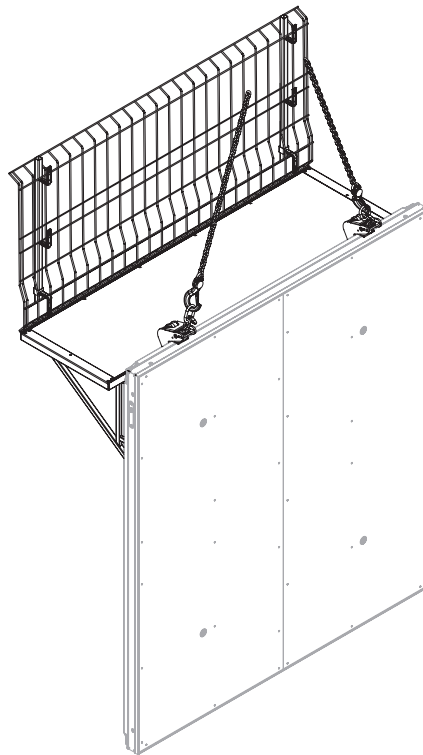
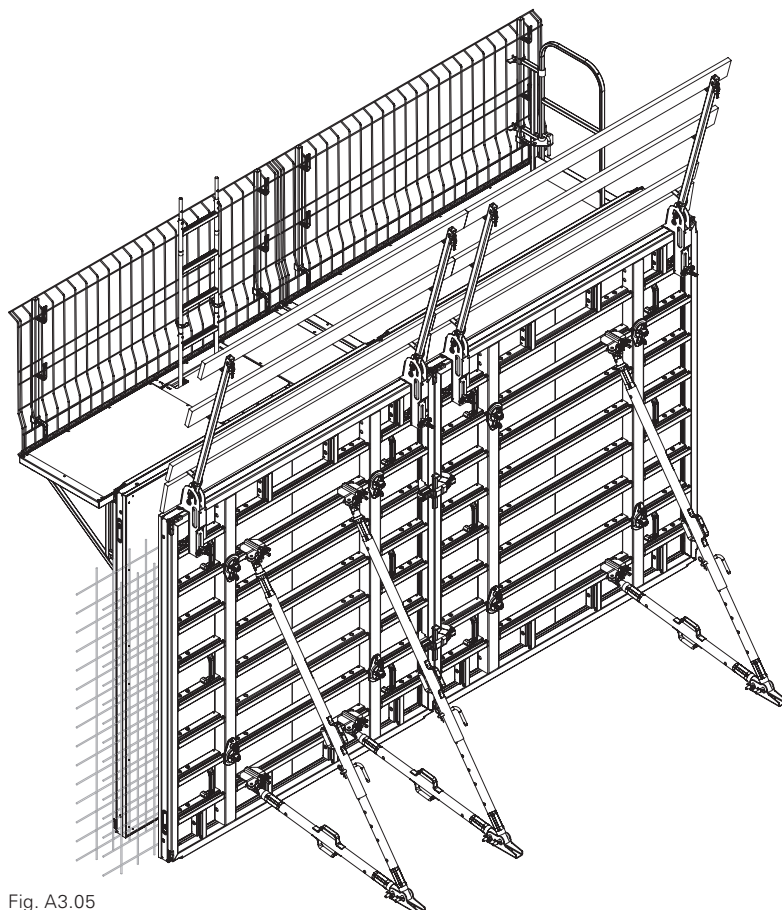

Fig. A3.04
Fig. A3.05
2. Fit the Lifting Hook MAXIMO 1.5t (6).
4. Erect Panel MX-2 (5).
5. Transport Panel MX-2 (5) to the place of use by crane. (Fig. A3.04)
6. Fit Tie MX, e.g. Tie MX18 15-25 (17), see Section A6.
7. Release the 2-sling lifting gear. (Fig. A3.05)
From a work platform. (Fig. A3.05)